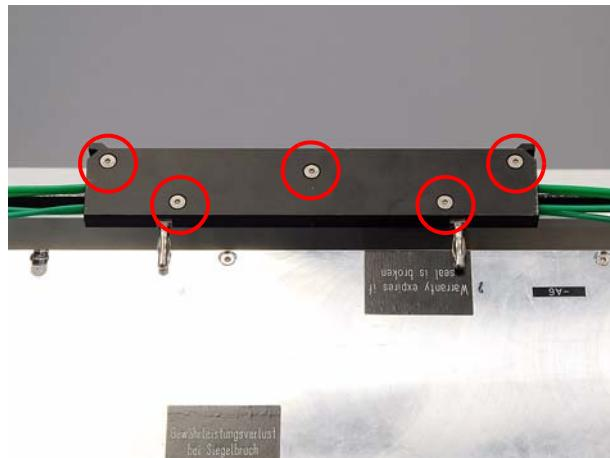

Figure 7.97 Fiber anchor
9. If fitted, pull the fiber anchor (Figure 7.97) from the mounts above the resonator module, open it and take out the fibers.